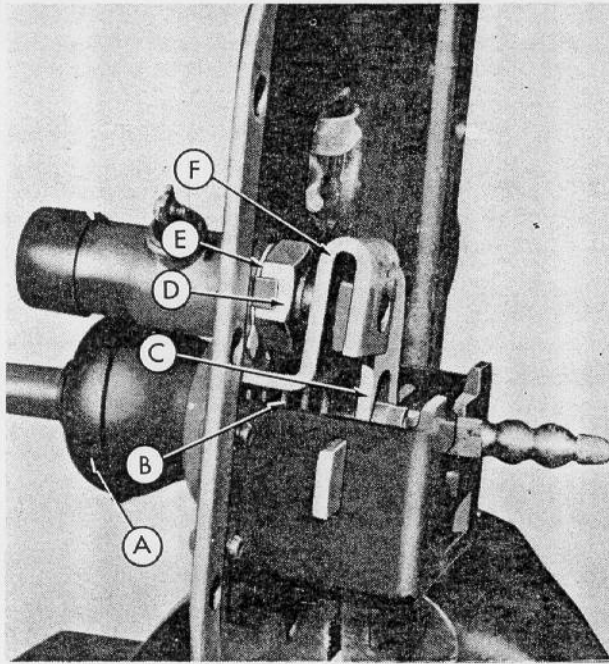

Fig. 1
- Step 1—Slide the shift lever rubber (A-Figure 1) up on the lever.
- Step 2—Remove the starter switch by removing the 1½" brass nut (D-Figure 1) and the lockwasher (E-Figure 1).
- Step 3—Remove the safety latch (F-Figure 1).
- Step 6—Remove the spring (B-Figure 1).
- Step 7—Tilt the shifter lock plate (C-Figure 1) and remove it from the guide support.